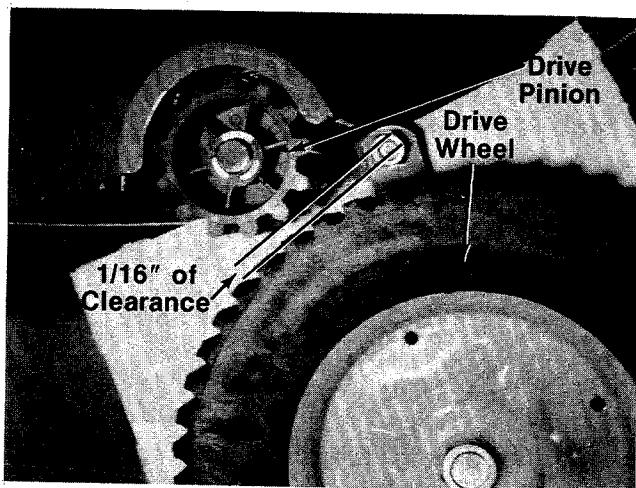

FIGURE 12.
21. Check the clutch rod adjustment as follows. The drive pinions should be approximately $1/16$ " from the drive wheels when the clutch is disengaged (handle is **not** pushed forward). See figure 12. When the handle is lifted, the drive pinions should mesh with the gear tread tires.
22. Press the plastic plug (G) into the hole in the top rear of the deck. Refer to illustration on page 16, reference number 79.